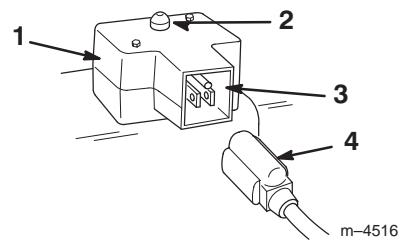

Figure 17
- **Electric Starter** (Fig. 17)—Push the starter button to start the engine.
- **Power Cord** (Fig. 17)—Connect the power cord to the electric starter and to an electrical outlet when starting the engine.
- A. Connect the power cord to the snowblower (Fig. 17) and to a standard household power outlet.